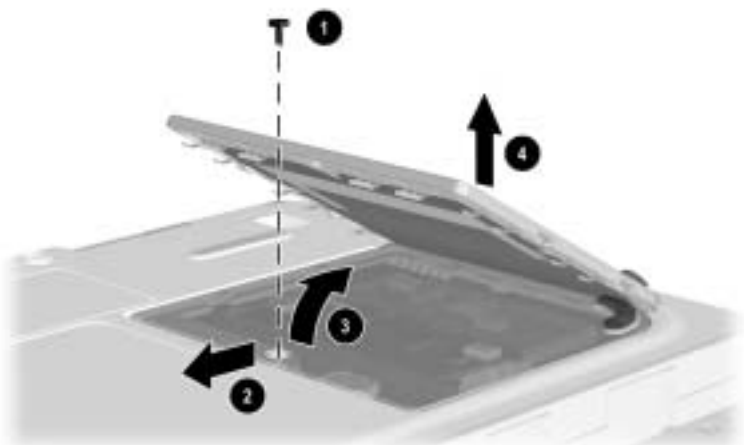

Figure 5-12. Removing the Mini PCI Communications Slot Cover
3. Remove the PM2.5 × 4.0 screw ❶ that secures the mini PCI compartment cover to the base enclosure (Figure 5-12).
4. Slide the cover to the left ❷.
5. Lift the left edge of the cover and swing it to the right ❸.
6. Remove the cover ❹.